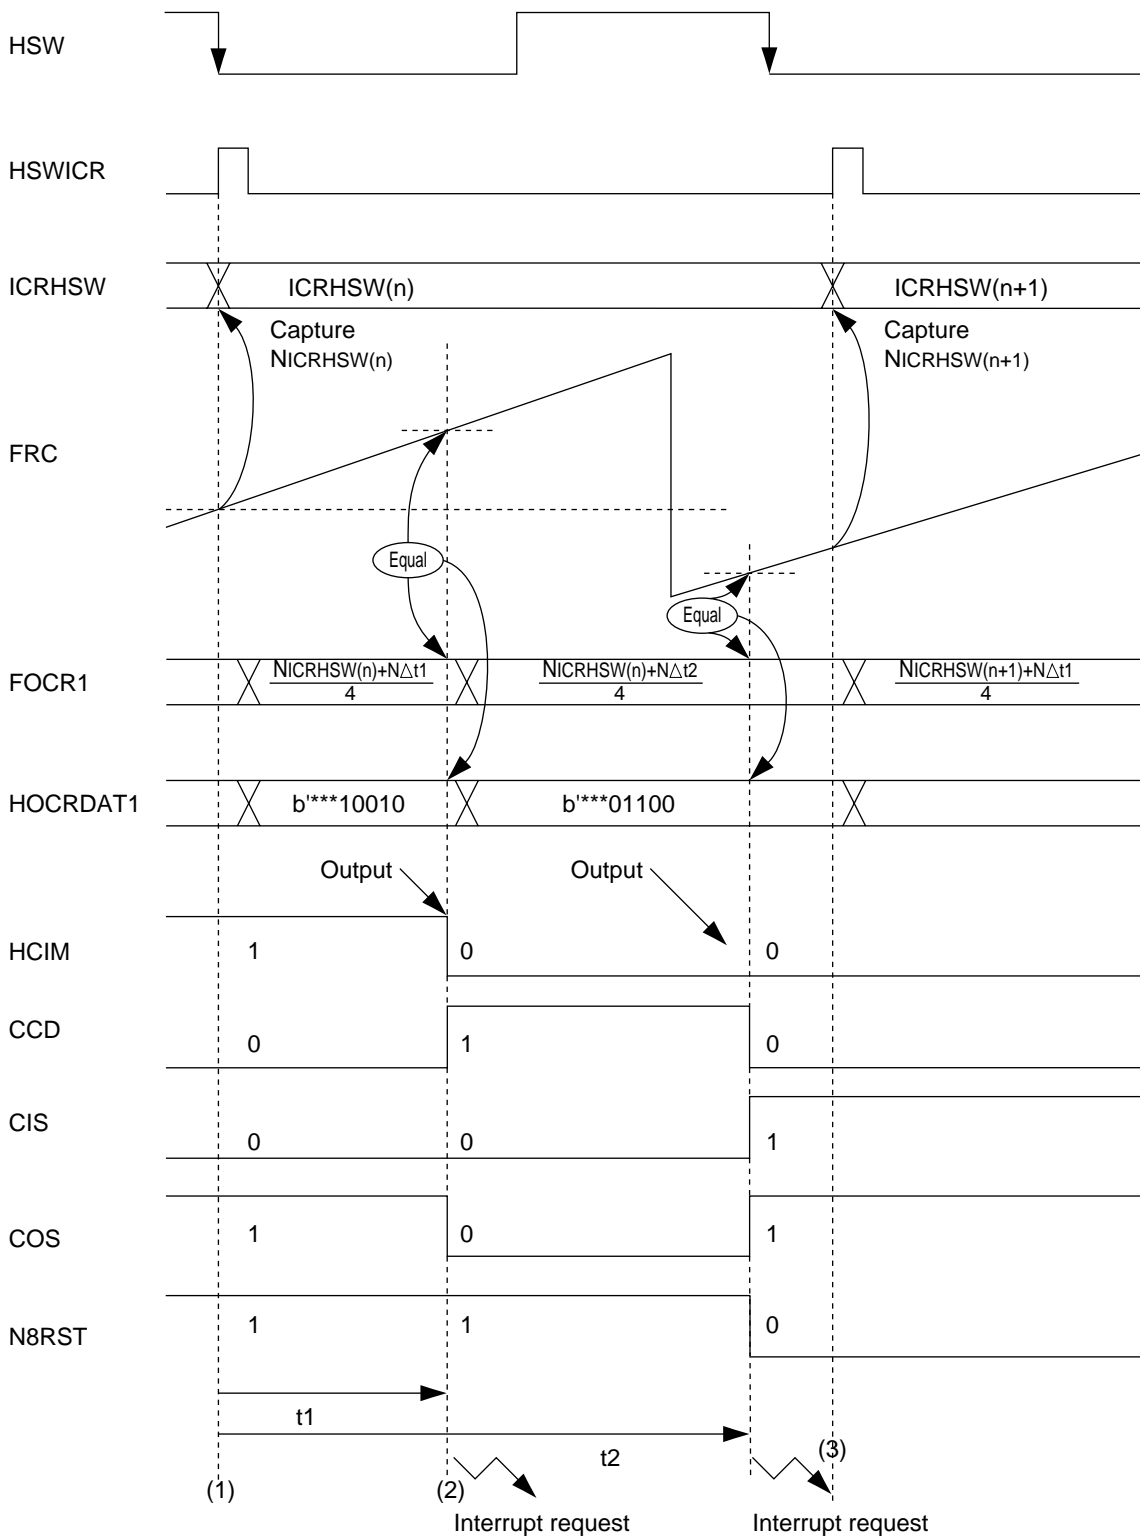

Figure 8-4-2 Synchronous Output Function 2 (HOCR Function), Example 2
(1) At time (1) in Figure 8-4-2, set the following: initial values for each output data, synchronous output timing, and output data.